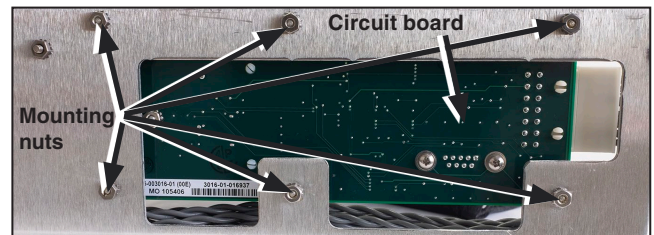

Figure 9. The R0 mounting nuts.
- STEP 6.** Remove the six standoff mounting nuts (will not be reused), and remove the circuit board. See Figure 9.